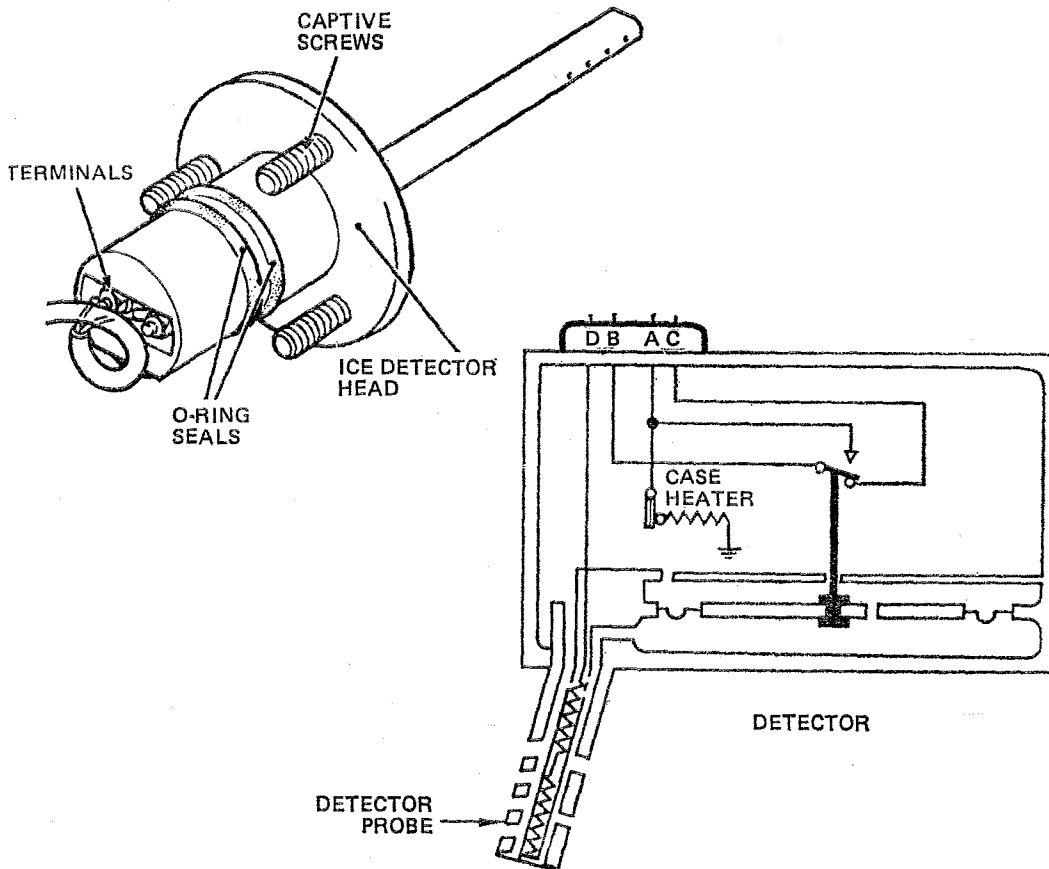

Figure 1 PRESSURE OPERATED ICE DETECTOR HEAD
3.1 **Pressure Operated Ice Detector Heads.** These consist of a short stainless steel or chromium plated brass tube, which is closed at its outer end and mounted so that it projects vertically downwards from a portion of the aircraft known to be susceptible to icing. Four small holes are drilled in the leading edge of this tube, and in the trailing edge are two holes of less total area than those of the leading edge (Figure 1). A heater element is fitted to allow the detector head to be cleared of ice. In some units of this type a further restriction to the air flow is provided by means of a baffle mounted through the centre of the tube.